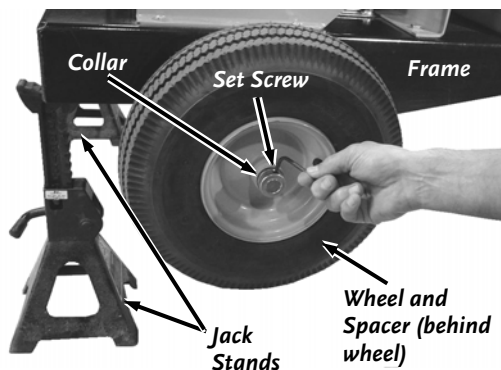

Figure 56
2. Jack up the rear of the Chipper and insert Jack Stands under the rear corners of the Frame to raise the Chipper wheels off the ground (**Figure 56**). The lowermost part of frame must be at least 10" from the ground for the Wheel Assembly to fit under.